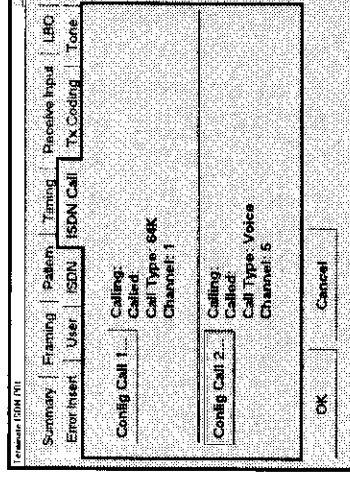

Figure 4-10. ISDN PRI Call Settings
5. Select the **ISDN Call** property sheet tab. Configure the call(s) by pressing **Config Call 1** and/or **Config Call 2** (see Figure 4-10). Refer to Table 4-3 for definitions of call configurations.
The ISDN PRI Call property sheet (**ISDN Call**) is visible only when the Terminate ISDN PRI mode application is active. Parameters must be set for both **Call 1** and **Call 2** when connecting to two calls simultaneously. Press **Config Call 1** (or **Config Call 2**) for a pop-up dialog box to change the parameters (Figure 4-10).